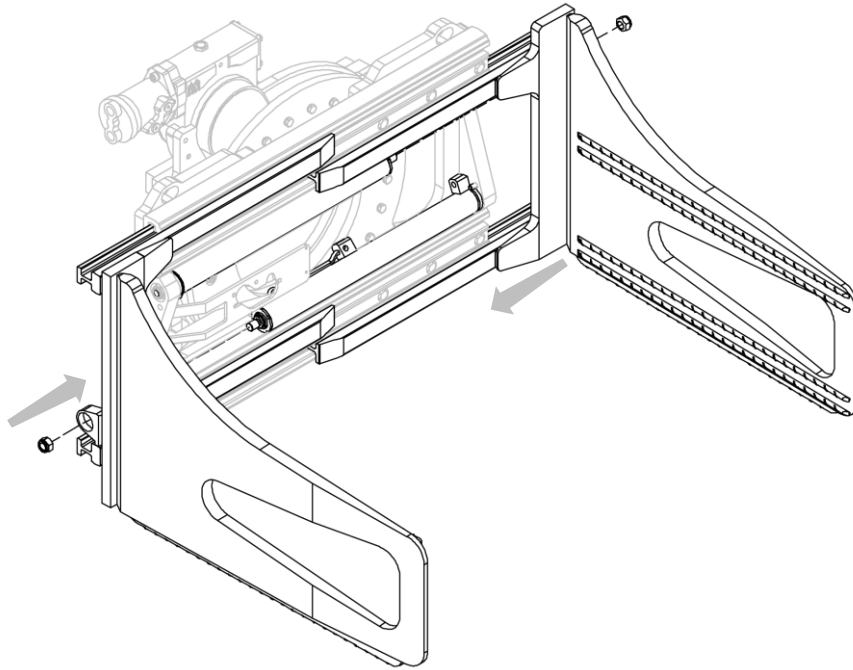
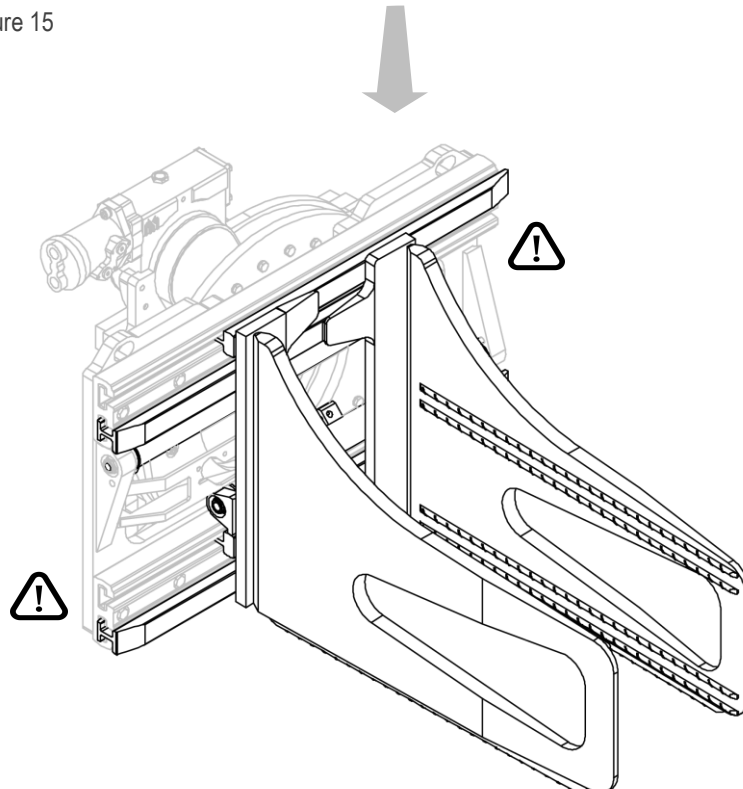

Figure 15
Figure 16
2. Insert the fork assembly + forks into their housings and secure them to the cylinders using the nuts (see *Figure 15* and *Figure 16*).